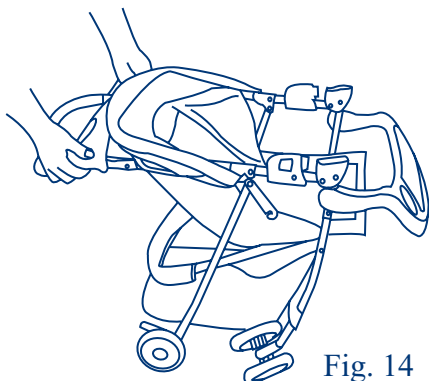

Fig. 14
- * Close the canopy as described in the Canopy section above. To fold the stroller slide the red fold lock with your thumb while squeezing the large red fold button in the center of the handle and push downward on the handle. Once the stroller begins to fold, release the red handle and pull rearward on the child tray until the stroller is folded. Secure the stroller in the folded position by fastening the fold locking latch, located on the right side of the stroller at the intersection of the handle and the rear leg tube, over the extended rivet on the lower frame tube. Please see figure 14 and 15. NOTE: before folding firstly to recline seat by releasing buckle as described in seat back position section above.